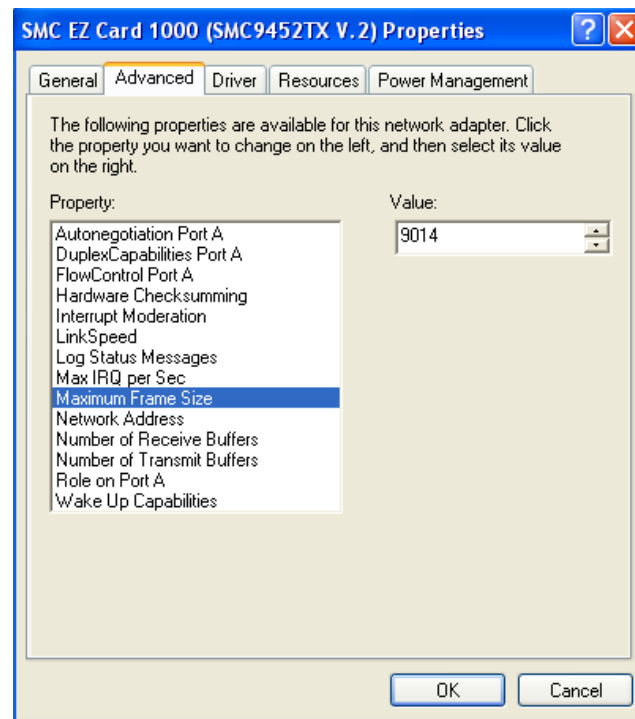

Figure 10. Network card advanced settings.
- o From the Properties window select **Configure** then select the **Advanced** tab. See Figure 10.